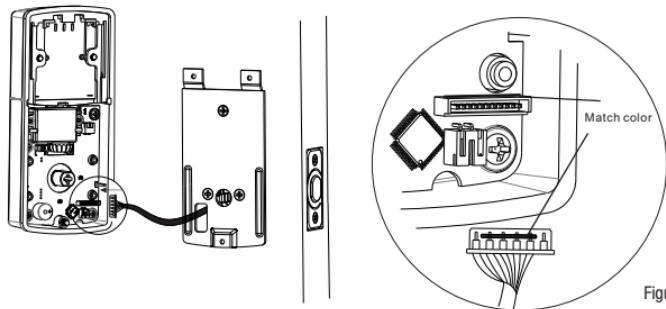

Figure 11a
- Carefully insert the male plug, smooth side up, into the female socket on the interior assembly. DO NOT FORCE! (Figure 11a).